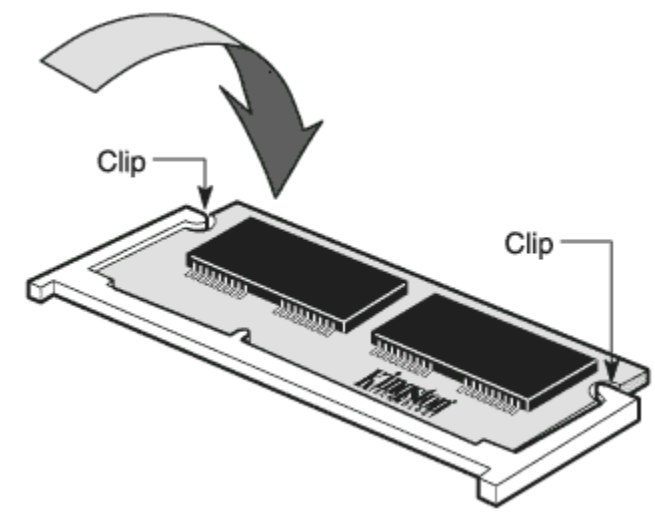

Figure 2-3 Finishing SODIMM Installation
- C) Keeping the module seated properly, rotate the "top" corners of the SODIMM straight down toward the SuperFalcon board. Continue pressing downward until both side latches lock into position. With most sockets, you will hear a distinctive CLICK, indicating the module is correctly locked. See Figure 2-3. Then push the SODIMM down against the board to insure that the connector latch mechanism totally engages.